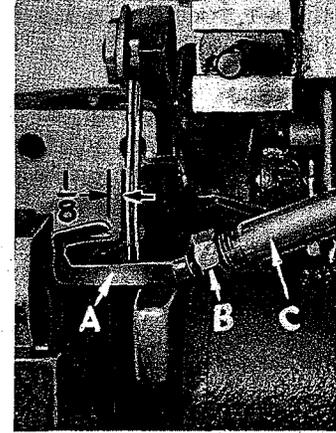

Fig. 5
At this point, insert lower spreader (A, Fig. 5) into bar (C). With lower spreader at the left end of its stroke, set the spreader point  $1/8$  inch from center of left needle, using looper gauge No. 21225 G- $1/8$ . Do not have lower spreader deflecting the needles. Tighten nut (B).